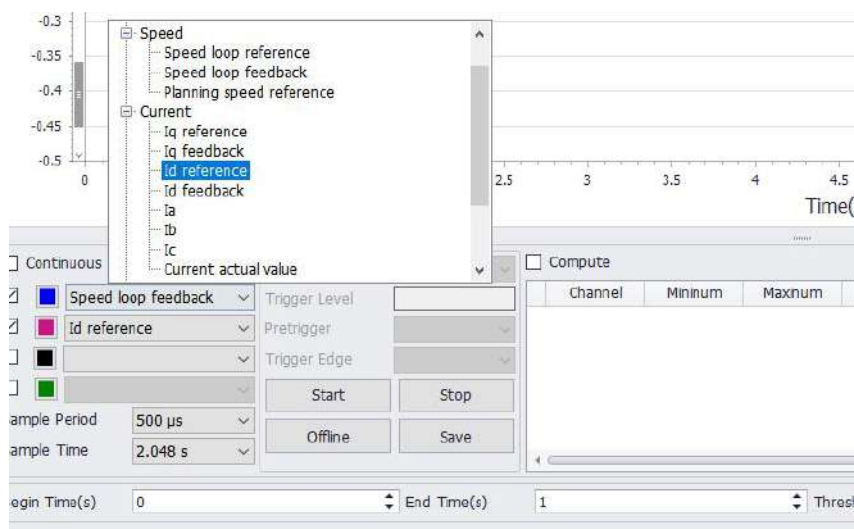

Figure 5-3 Channel selection
① Passage selection. The oscilloscope supports a maximum of 4 channels for acquisition, with the channel serial number colour matching the colour of the acquired waveform. The parameters available for acquisition are speed, position, encoder, current, voltage, temperature and other related parameters, as shown in Figure 5-3;